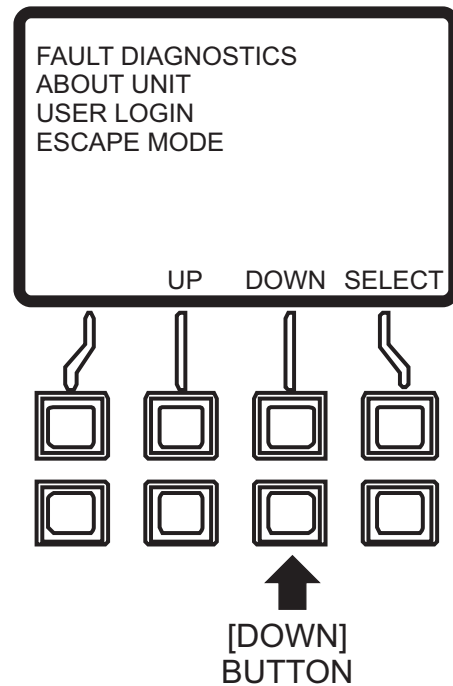

Figure 93. Main Menu (Down Button)
4. Press the [DOWN] button (Figure 93) to scroll to the Escape Mode item.